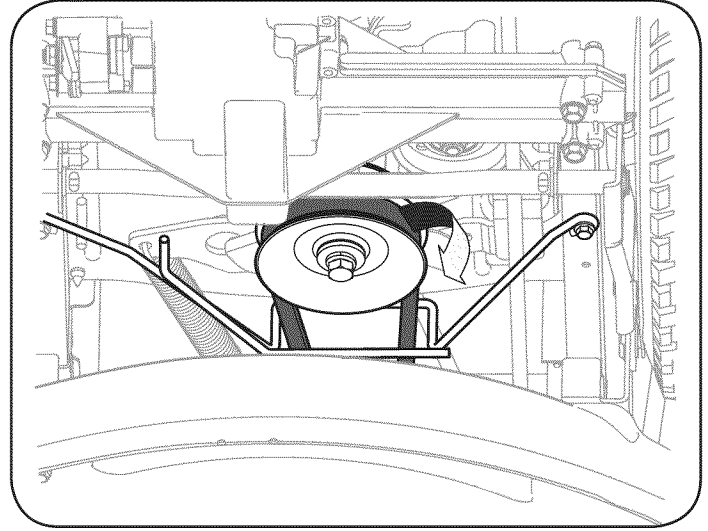

Figure 33
3. Remove the belt from around the tractor's PTO pulley. See Figure 33.
3. Remove the deck belt from around the unit's PTO drive pulley as shown in Figure 33. Simply roll one side of the belt off the pulley and then work it off the pulley by continuing around the pulley until the belt is off of the pulley.
4. Pull the belt towards the front of the unit, pulling it through and out of the belt keeper bracket, shown in Figure 33.
8. Feed the deck belt through the belt keeper bracket and work it around and onto the PTO drive pulley as shown in Figure 33.